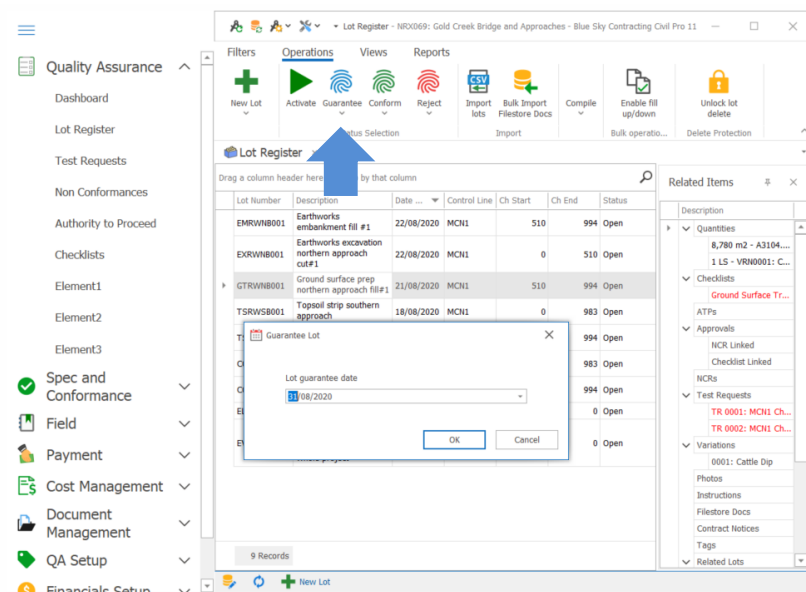

Figure 110 Selecting Guarantee Status from Operations Menu
2. From within the Operations menu in the ribbon menu at the top of the screen select *Guarantee* (Figure 110)